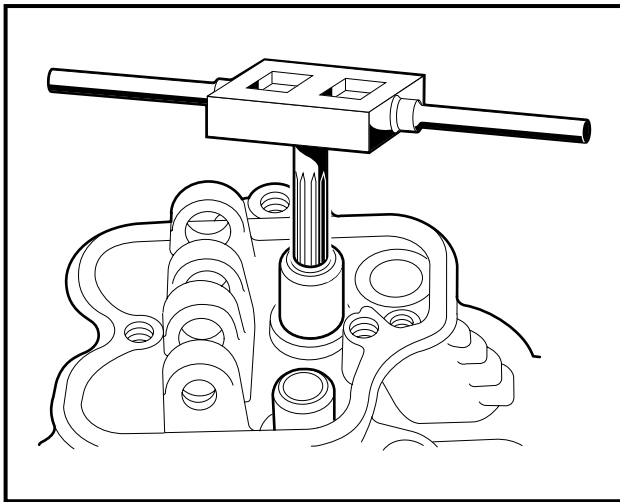

Figure 2-17 Ream Valve Guide
5. Ream the guide with a stanisol or kerosene lubricant and a valve guide reamer (CCI P/N 101641201). The valve guide inside diameter should be 0.2756 - 0.2762 inch (7.000 - 7.015 mm) (**Figure 2-17, Page 2-11**).